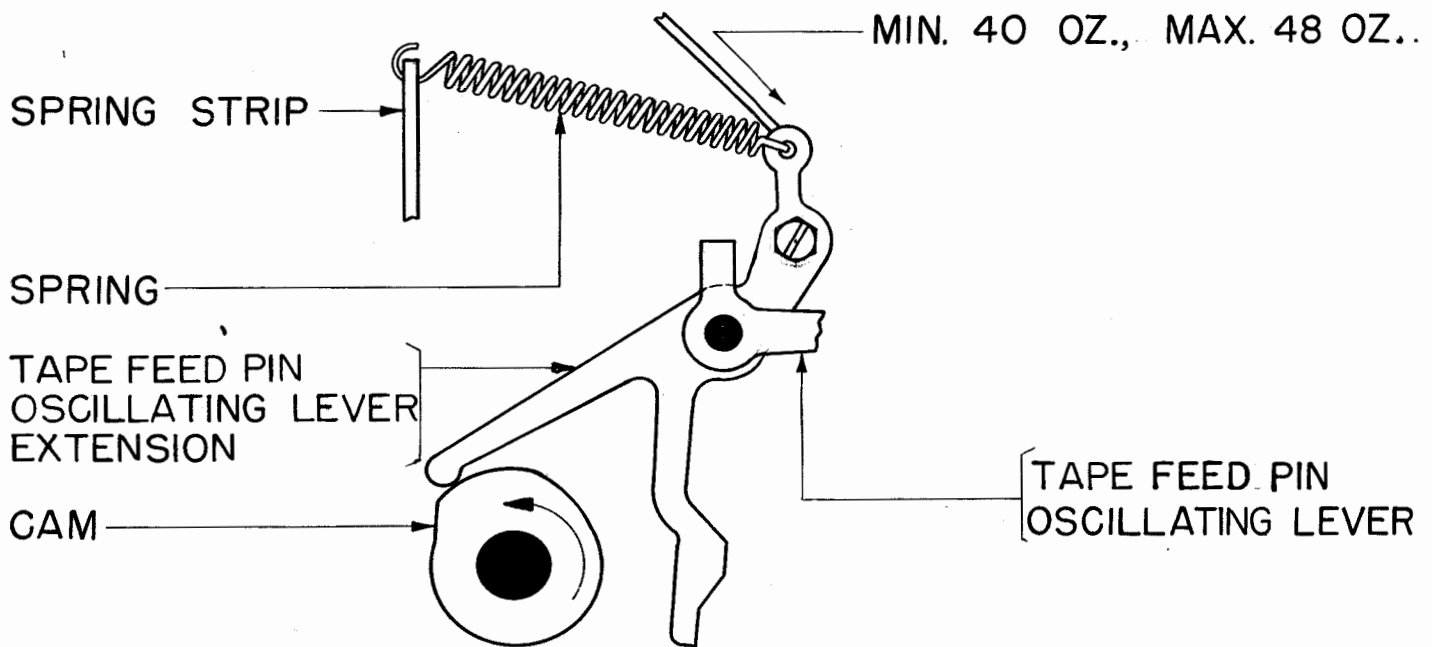

Figure 56
2.116 Tape-feed-pin Oscillating-lever-extension Spring: It shall require a push as indicated in Figure 56 to just start the oscillating-lever extension moving when the camfollower tip of the extension is resting firmly on the high part of its cam.